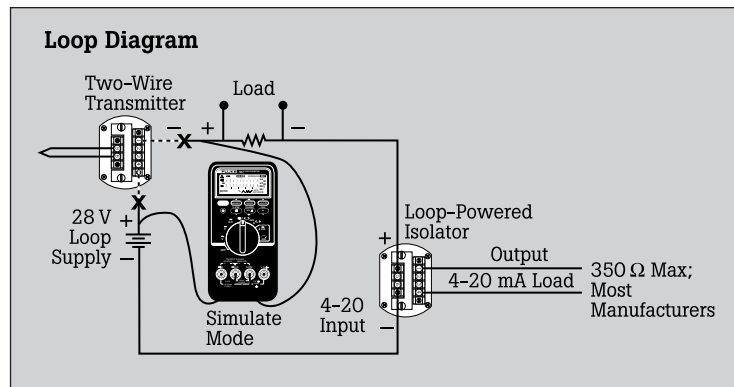

Figure 2
Fluke loop calibrators have a unique current simulation feature that, when connected to an external power source, allows you to precisely control current between 0 mA and 24 mA. When field checking a loop-powered isolator, the two-wire loop transmitter supplying signal current to the isolator for the loop may be removed and the calibrator connected in simulate mode to control loop current (Figure 2).
1. Disconnect the main loop transmitter and connect the Fluke 787 to the loop with the test leads plugged into the center or "Simulate" terminals of the calibrator (see Figure 2).
3. Place a Fluke 87, 187 or equivalent multimeter (1 μ A resolution is ideal; 10 μ A is acceptable), set in the mA measurement mode, on the output side of the isolator to monitor output current (see Figure 2).